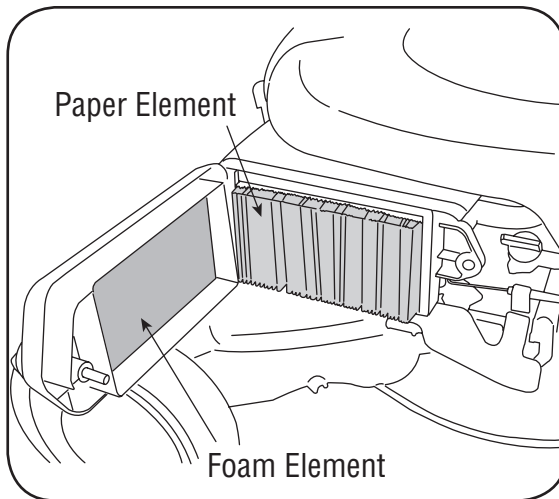

Figure 10-2: Servicing the air cleaner.
1. Remove the wing bolt and the air cleaner cover. Remove the elements and separate them. See Figure 10-2. Carefully check both elements for holes or tears and replace if damaged.